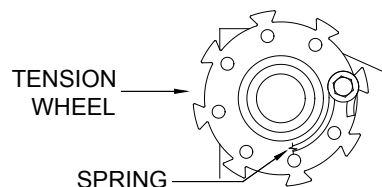

Figure 2.
4. Remove the old spring/tensioner assembly. Replace with new spring by removing the 5/16" bolt and flat washer and reinstall the tensioner on the spring according to Figure 2. NOTE: The left spring is always color coded blue (viewing door from inside looking out).